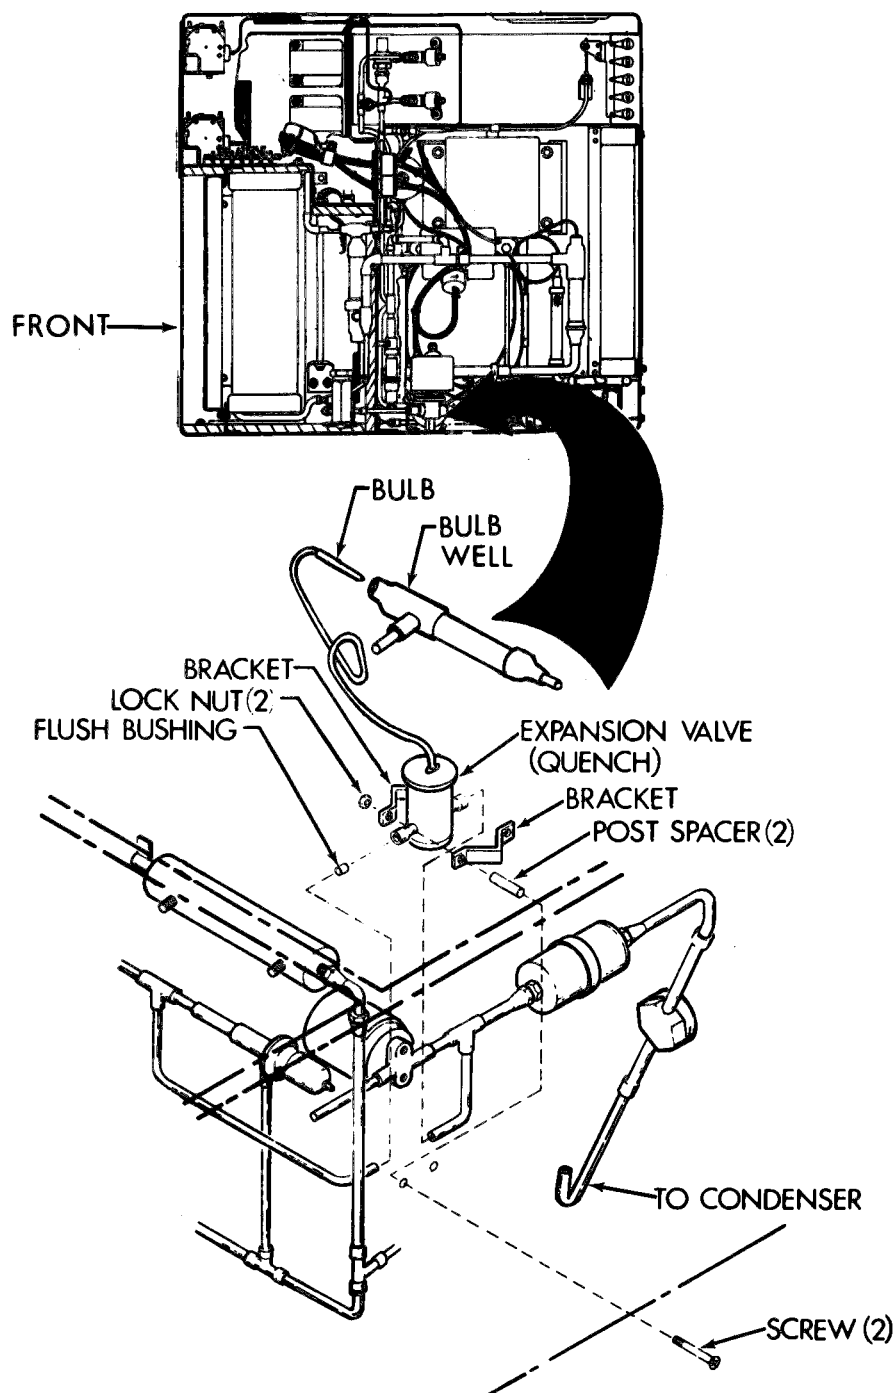

Figure 5-11. Expansion Valve (Quench)
- a. Removal. (See fig. 5-11.)
- (1) Disconnect power at power source.
- (2) Remove top rear cover (para 4-11).
- (3) Discharge and purge refrigeration system per paragraphs 5-11 and 5-12.
- (4) Unwrap insulation from joints of the expansion valve.
- (5) Soften the thermal mastic in bulb well using a cloth wrung out in hot water, a heat lamp, or heat gun if necessary and withdraw the bulb from the well.